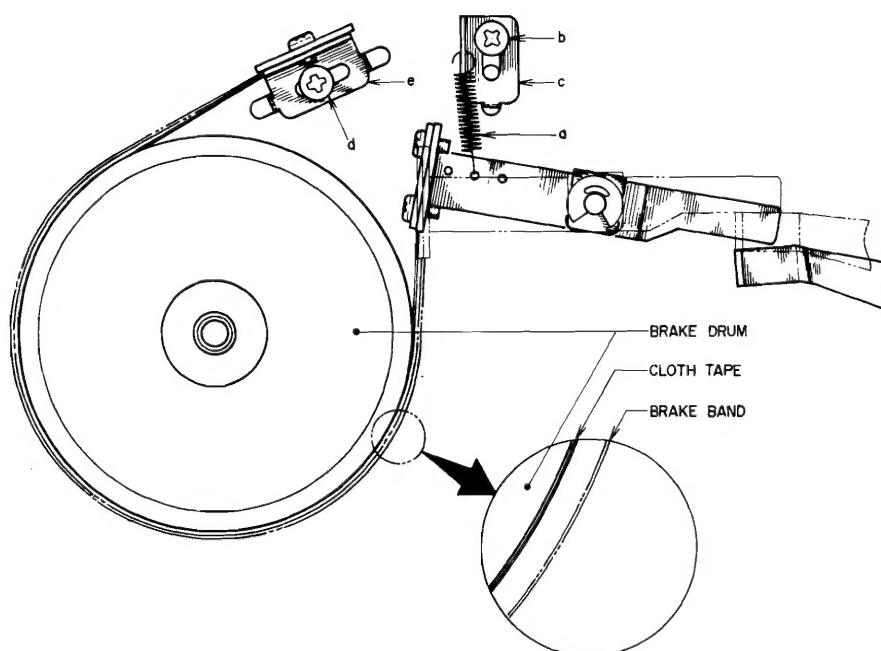

Fig. 5 Brake Tension Adjustment
Brake tension adjustment can be made as follows: (Refer to Fig. 5)
- 4) Only the left side is shown in Fig. 5, but the right side must be adjusted in the same way.
NOTE: In making brake tension adjustments, at all modes except stop mode, confirm that the brake band completely separates from the cloth tape on the brake drum. (Refer to Fig. 5.)